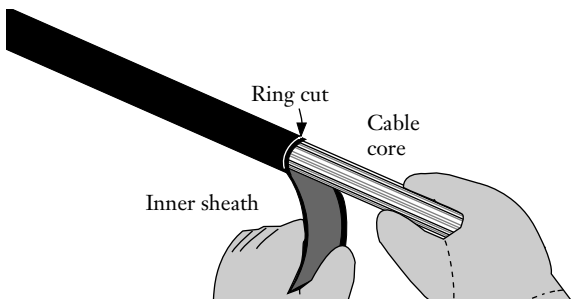

Figure 12
**5.18** Peel the 15 cm (6 in.) section of inner sheath from the end of the cable – *use care during this step to avoid damaging the cable core* (Figure 12).